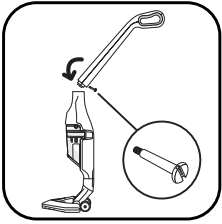

fig. 1
- Attach the handle by carefully inserting it into the upper part of the main body (fig.1)